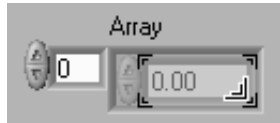

Figure 1–59
1. With the Positioning tool , wiggle your cursor over the lower right-hand corner of the *element inside the array*, not the array, until the cursor looks like Figure 1–59.